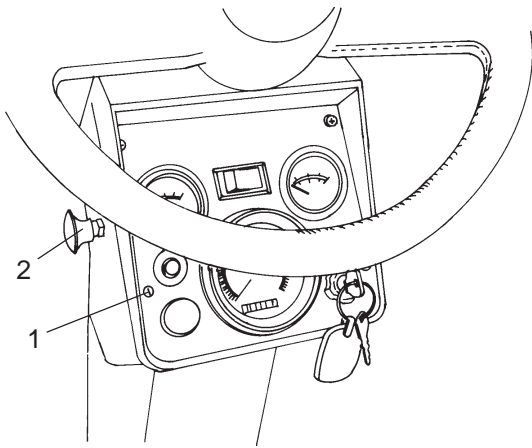
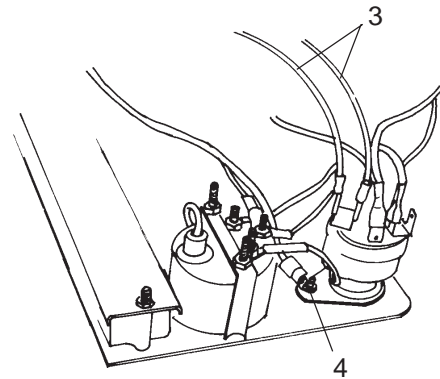
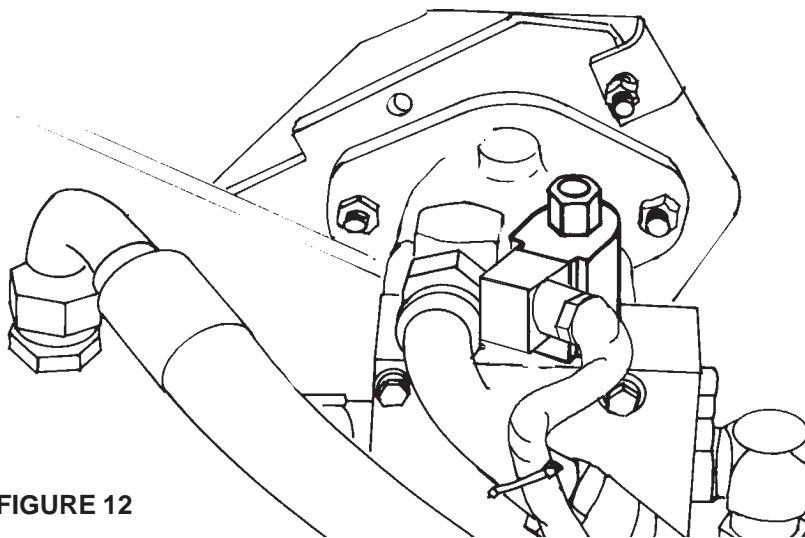
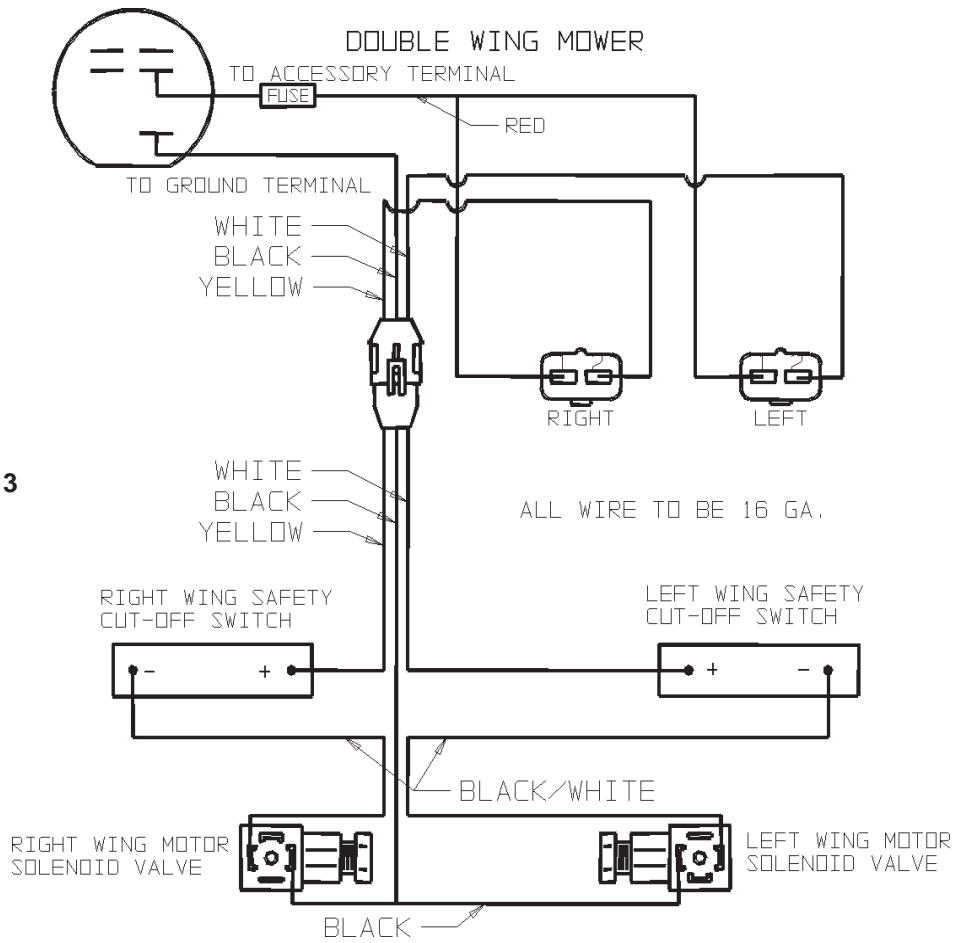

FIGURE 10
FIGURE 11
FIGURE 12
FIGURE 13
Battery cable must be disconnected to prevent any electrical shock. Unscrew bottom screws from panel with regular tip screwdriver (Figure 10, item 1). Pull down on panel from bottom, and top should pop out. Place a small block of wood inside of console against side wall to protect wiring when drilling holes for switch. Both sides of console should be drilled for switch to be mounted (Figure 10, item 2). Once the switches are installed, connect switch connectors from harness to the top spade terminals of switch. Connect power wires to ignition switch at accessory terminal (Figure 11, item 3). Connect ground wire to ground (Figure 11, item 4). Wire harness should then be routed through console, then through hole underneath seat at pivot point. Wire harness should then exit at hydraulic hoses connection, at front of tractor. Connect wire harness from tractor to the wire harness from mower. Refer to electrical schematic (Figure 13) for additional help.
Connect terminals on harness to corresponding terminals on safety switch. Continue harness routing with hoses and attach connector at end of harness to solenoid coil on motor. Secure with screw and gasket provided with harness. **Fig. 12.** Refer to electrical schematic (**Figure 13**) for additional help.